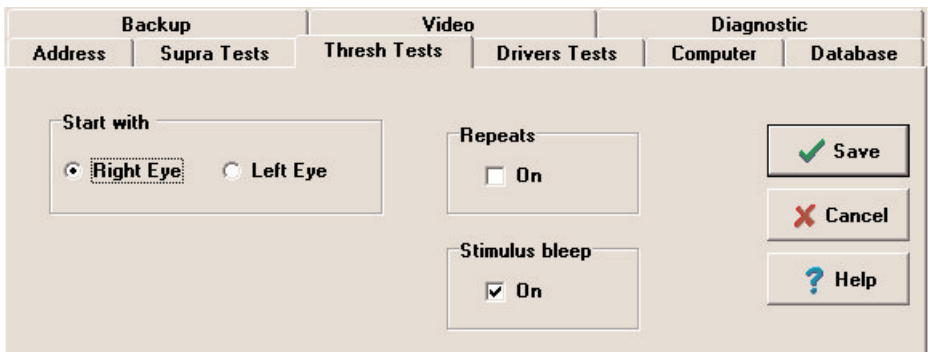

Figure 35. The Full Threshold Options screen.
- whether or not the program issues bleeps before each stimulus presentation (see Fig. 35).